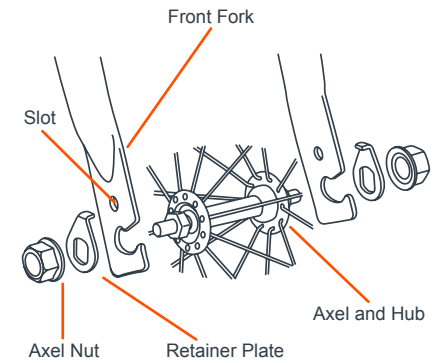

Fig. 3
- 3) • Slide the retainer plates onto the front wheel. Be sure that the raised lip is pointing toward the fork and insert it into the slot on the fork. The tab on the retainer plate must be lined up with the slot before tightening the wheel (Fig. 3).